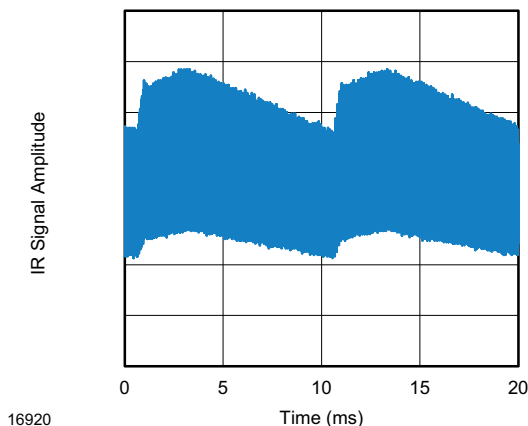

Fig. 14 - IR Disturbance from Fluorescent Lamp With Low Modulation
- Strongly or weakly modulated noise from fluorescent lamps with electronic ballasts (see Fig. 14 or Fig. 15)